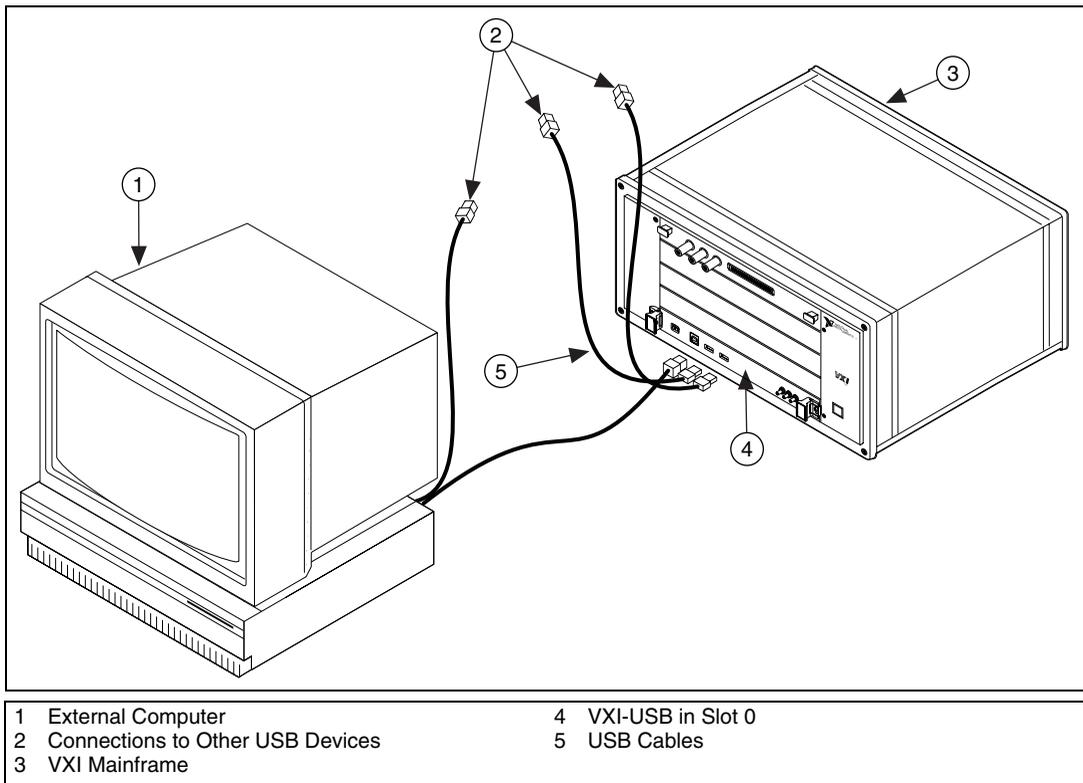

Figure 2-2. USB System
Figure 2-2 shows a system that includes a USB 2.0-equipped computer, a VXI-USB, and USB devices.
3. Insert the VXI-USB into the chassis in Slot 0, as shown in Figure 2-2.
Connect the USB cable to a USB connection in your host PC and to the VXI-USB, as shown in Figure 2-2. You can use any available USB port on the PC for each device. The VXI-USB has two external ports for devices. You can connect any other USB devices to any available port on a VXI-USB, but for best performance, minimize the number of USB devices/hubs in the system. Adding to the number of devices in the tree degrades system performance.